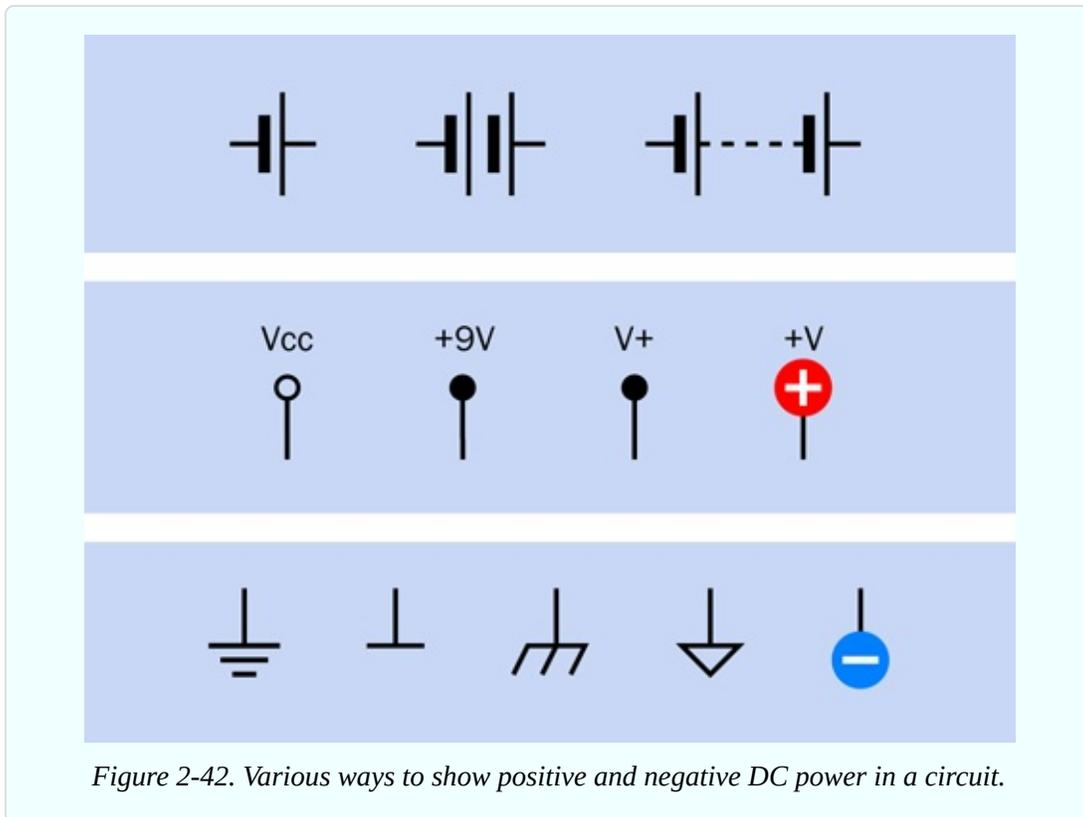

Figure 2-42. Various ways to show positive and negative DC power in a circuit.
2. Power Supply. The power supply for a DC (direct-current) circuit can be indicated in several ways. The top section of **Figure 2-42** shows symbols for a battery. A short line indicates the negative end, while a longer line indicates the positive end. Traditionally, a single pair of lines represented a single 1.5-volt cell, two pairs indicated a 3-volt cell, and so on. But when circuits used high voltage with vacuum tubes, the person drawing the schematic would usually show a dashed line between cells instead of drawing dozens of them in a row.
A battery symbol may still be used in a simple schematic, but more often positive and negative DC power is indicated by separate symbols, shown in the center section and the bottom section of Figure 2-42. Positive is applied in one location of a circuit labelled V_{CC} , V_{CC} , or V^+ , or $+V$, or $+V$ with a number added to indicate the voltage. Originally the term V_C referred to the voltage at the collector of a transistor. V_{CC} meant the supply voltage for the whole circuit, and is now used regardless of whether the circuit has any transistors in it. Many people say “vee cee cee” without knowing its derivation.
The negative side of the power supply can be shown with any of the symbols in the bottom section of Figure 2-42. It may be referred to as “negative ground” or simply “ground.” Because many parts of a circuit may share a negative potential, multiple ground symbols may be found scattered around a schematic. This is more convenient than drawing lines linking them all together.